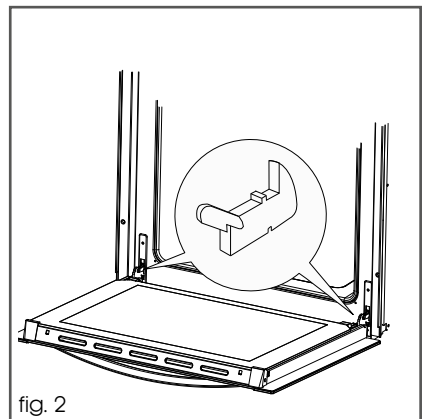

fig. 2
- Lift and tilt the safety catch part of the hinge (fig. 2) so that it is fully extended and points towards the door.